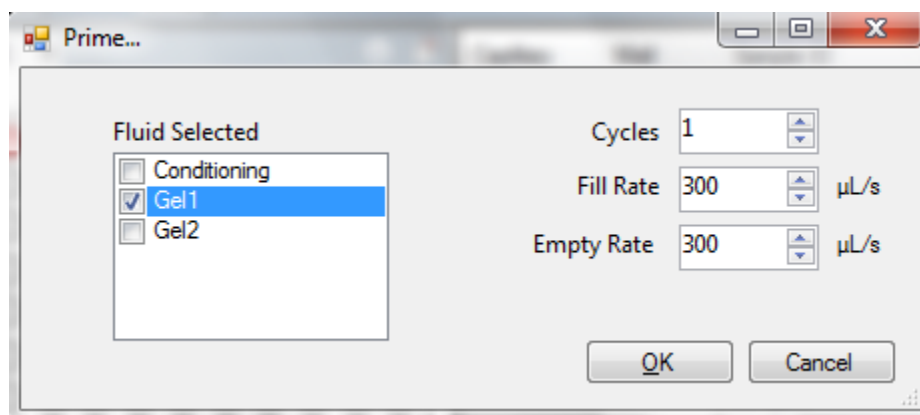

Figure 2. Prime menu
- When switching applications (e.g., between NGS and RNA kits), prime the appropriate gel fluid line after loading fresh gel/dye mixture. From the Main Menu of the *Fragment Analyzer*™ instrumental control software, select **Utilities — Prime...** Select the desired fluid line(s) (Conditioning, Gel 1, or Gel 2) and press **OK** to purge the fluid line with fresh gel (Figure 2).